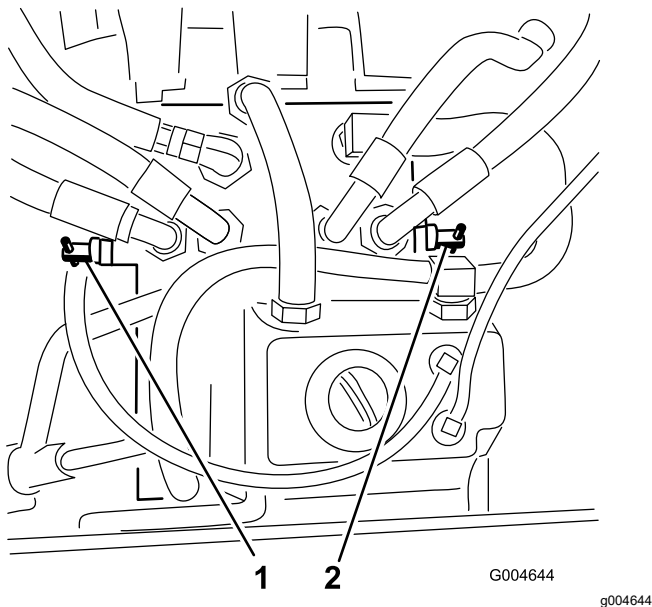

Figure 33
2. Locate the bypass valves (Figure 33) and rotate each bypass valve counterclockwise 1 turn.
4. Close the valves by rotating each valve 1 clockwise turn (Figure 33).